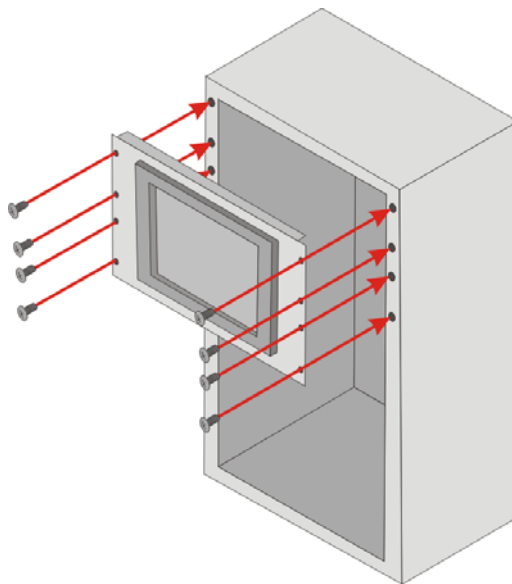

Figure 4-25: Install into a Rack/Cabinet
Step 4: Slide the panel PC with the attached rack/cabinet bracket into a rack or cabinet (Figure 4-25).
Step 5: Once the panel PC with the attached rack/cabinet bracket has been properly inserted into the rack or cabinet, secure the front of the rack/cabinet bracket to the front of the rack or cabinet (**Figure 4-25**).